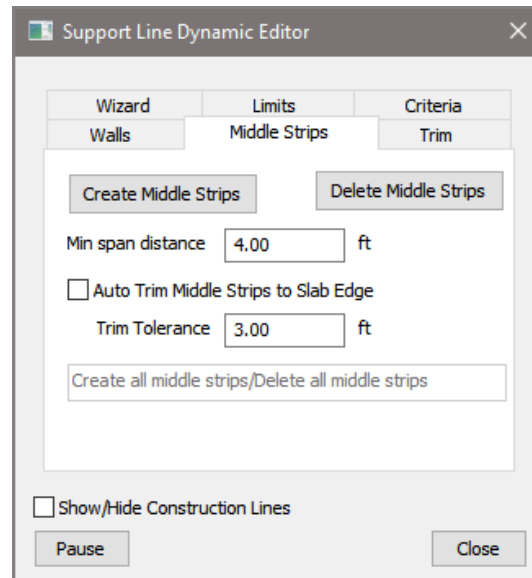

Figure 6-18
- Click on the *Middle Strips* tab of the *Dynamic Editor*. The user should see the window shown in **FIGURE 6-18**.